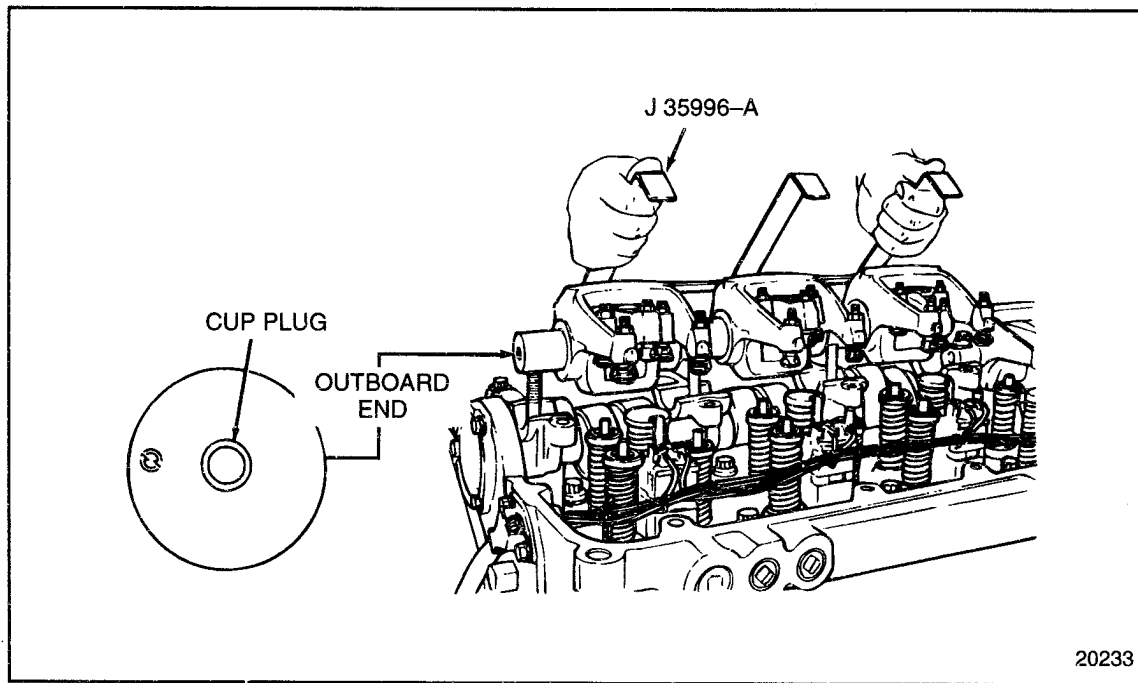

FIGURE 1-291 Rocker Arm Installation
5. Install the rocker arms to the rocker arm shafts in their original positions. Use the rocker arm identification marks to ensure correct component installation. See Figure 1-291.
7. Install the rocker arm shaft assemblies to the cylinder head. See Figure 1-291. Use care to locate the valve buttons to their respective valve stem and injector followers.